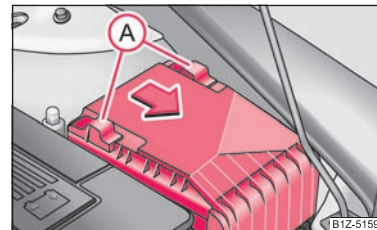

Fig. 189 Fuse cover in engine compartment
- Move the circlips (A) ⇒ page 217, fig. 189 as far as the stop, the symbol  appears behind the circlip and remove the cover.